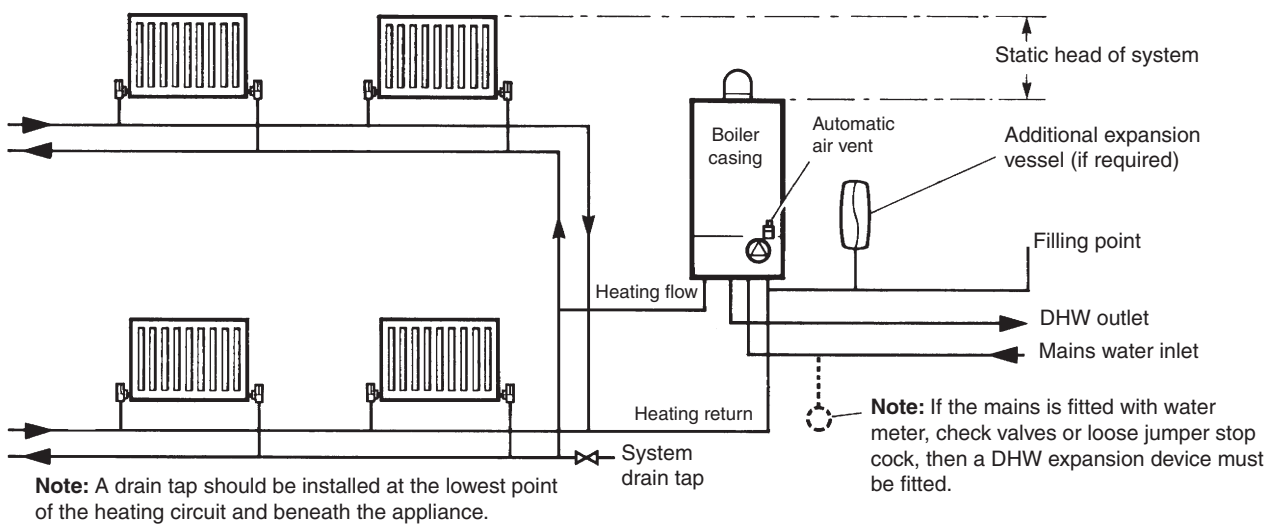

Fig. 3.4
3.7 CENTRAL HEATING SYSTEM - Fig. 3.4
System volume - The expansion vessel incorporated into the boiler is suitable for a sealed heating system with a maximum water content of 80 litres (18 gal). Above 80 litres, consideration should be given to fitting an additional expansion vessel fitted in the position shown in Fig. 3.4. To check correct operation of the expansion vessel(s) the system pressure should not be more than 2.5 bar when the system is at maximum operating temperature (for further guidance refer to BS 7074:1).
The system design pressure (cold) should be set to 1.0 bar. This pressure is equivalent to a static head (see Fig. 3.4) of 10.2 metres of water.